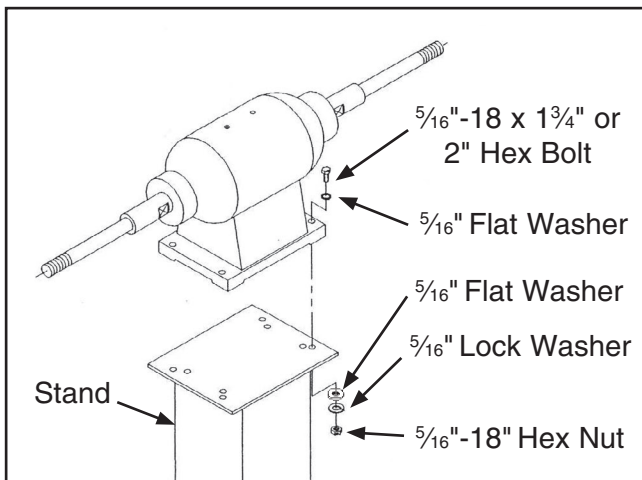

Figure 6. Mounting buffer to optional G4789 stand.
2. With the assistance of a helper, place the buffer on the stand and secure with the four $\frac{5}{16}$ "-18 x $1\frac{3}{4}$ " hex bolts (Model G3622) or the four $\frac{5}{16}$ "-18 x 2" hex bolts (all other models), eight flat washers, and four lock washers and hex nuts, as shown in **Figure 6**.
The strongest mounting option is a "Through Mount" where holes are drilled all the way through the workbench, and hex bolts, washers, and hex nuts are used to secure the buffer to the workbench, as shown in **Figure 6**.
You can use the $\frac{5}{16}$ "-18 x $1\frac{3}{4}$ " or $\frac{5}{16}$ "-18 x 2" hex bolts and other fasteners shown in **Figure 6** to mount the buffer to a workbench. However, your workbench thickness or setup may require longer hex bolts and additional washers, which you will have to provide.